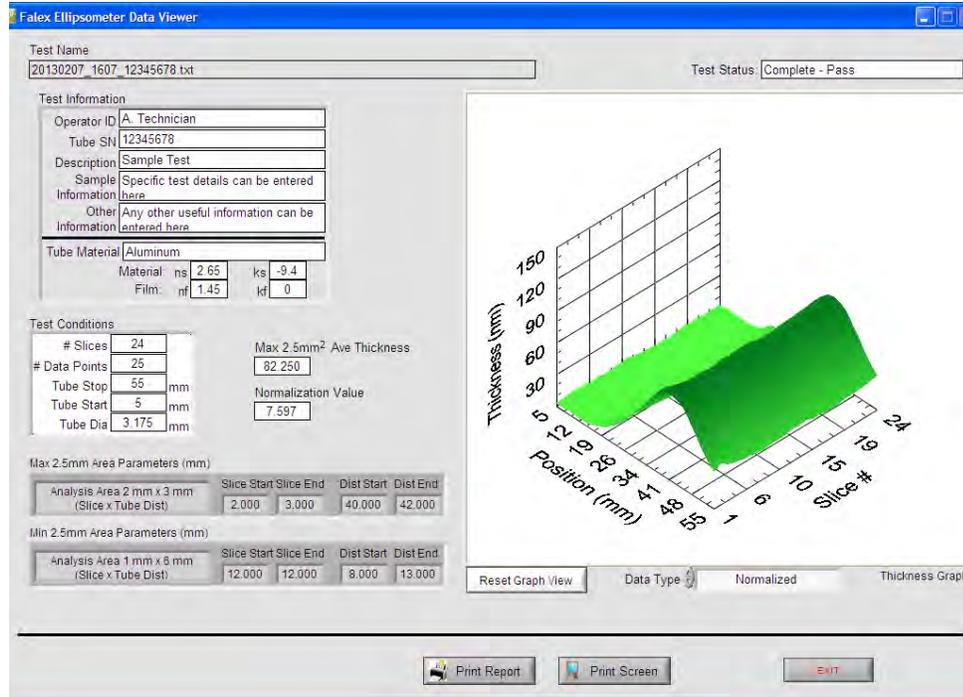

Figure 40 – Recall Data Display
- 'Recall Data' will show the test data results for the selected data file on a popup display (figure 40).